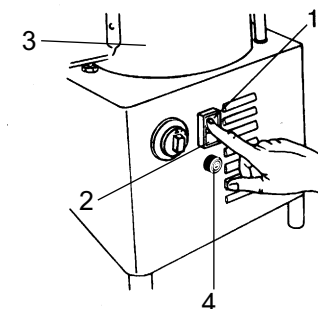

Fig. 8
- Press the green button. The white light 1, Fig. 8 turns on and the working cycle start.